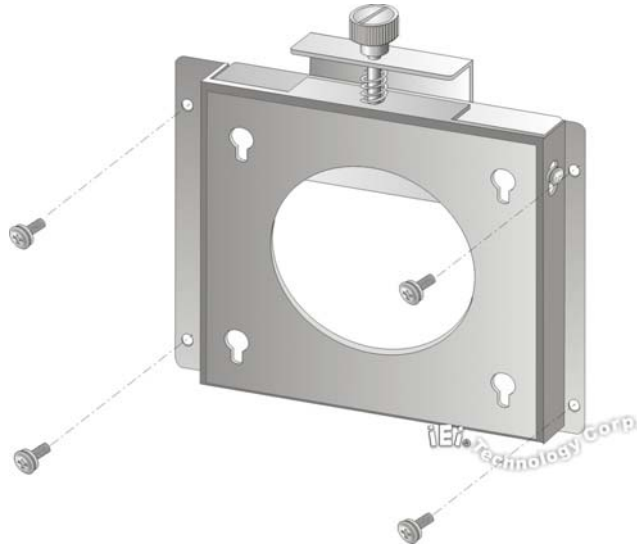

Figure 3-8: Wall-mounting Bracket
Step 5: Secure the mounting-bracket to the wall by inserting the retention screws into the four pilot holes and tightening them (**Figure 3-8**).